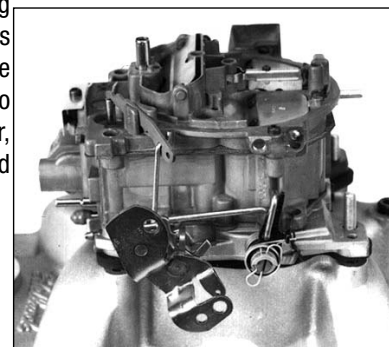

Figure 1
- Disconnect throttle linkage, kickdown linkage (certain automatic transmission applications only), cruise control (if equipped) and any return springs if present. **NOTE:** Check carefully for the precise location of all these linkages and return springs. You may want to mark them with masking tape for easy reference. Compare throttle arm of your new carburetor with the old one to be sure that all required linkages will hook up. Ball stud is usually removable and must be installed in the proper location (see Figures 1 & 2).